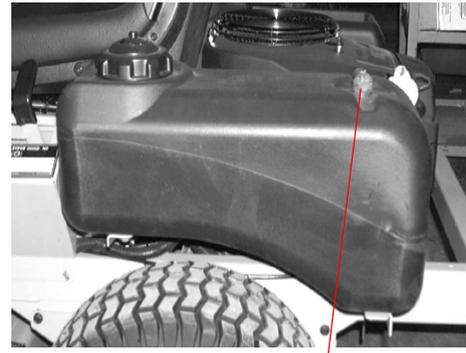

Figure. 4 *Fuel Shutoff Valve*
7. **Fuel Shutoff Valve:** (See Figure 4.) Located on top of the fuel tank(s). When turned in a clockwise